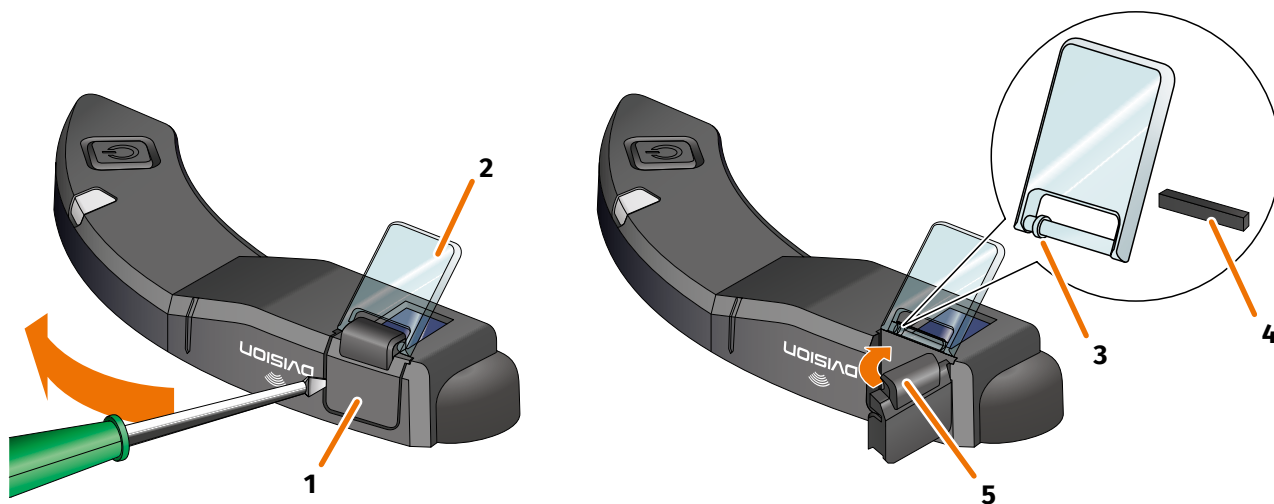

FIGURE 17 // Replacing the display
1. Place a screwdriver under the side of the display holder (FIGURE 17/1) and carefully lift up the display holder.
2. Remove the display holder and the damaged display (FIGURE 17/2) from the DVISION module.
3. Insert the new display into the DVISION module. Make sure that the alignment is correct. The small ring on the display (FIGURE 17/3) should point to the narrow side of the DVISION module.
4. Insert the clamping wedge (FIGURE 17/4) into the support (FIGURE 17/5) on the display holder.